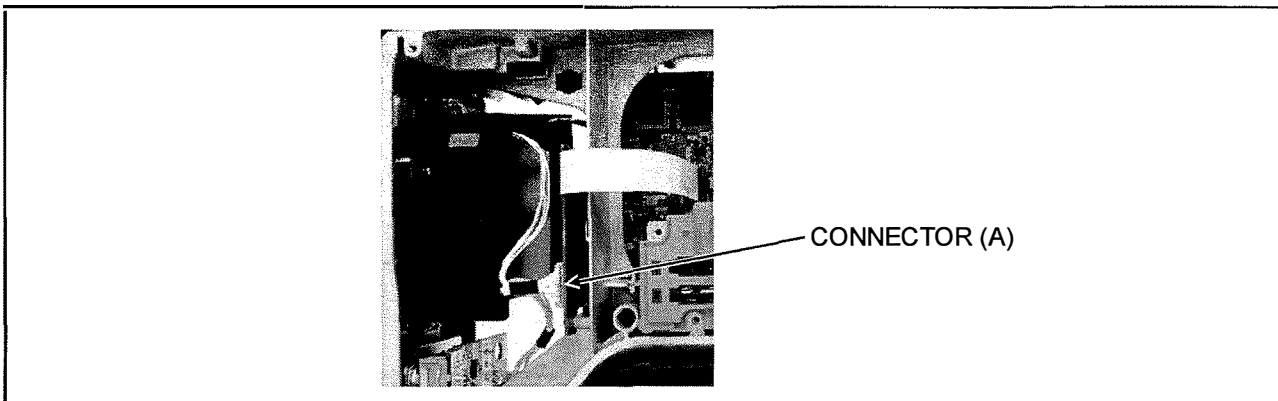

Figure 13-1
4. Disconnect a connector (A) on the RELAY P.C.B. as shown in figure 13-1.